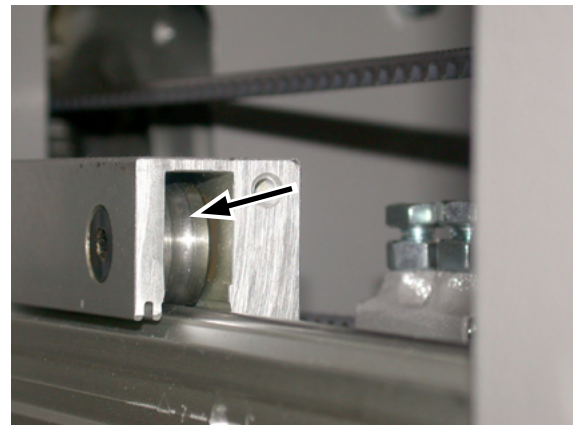

Figure 4-4: Lightly lubricate the spreader rail rollers.
4. Work the carriage back and forth, lightly holding the cloth so that the grooved bearings (Figure 4-4) picks up the lubrication.